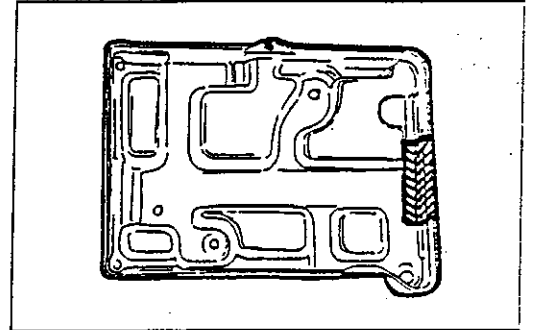

Fig. 23
(1) Cut the shaded section of the battery tray as shown in Fig. 23